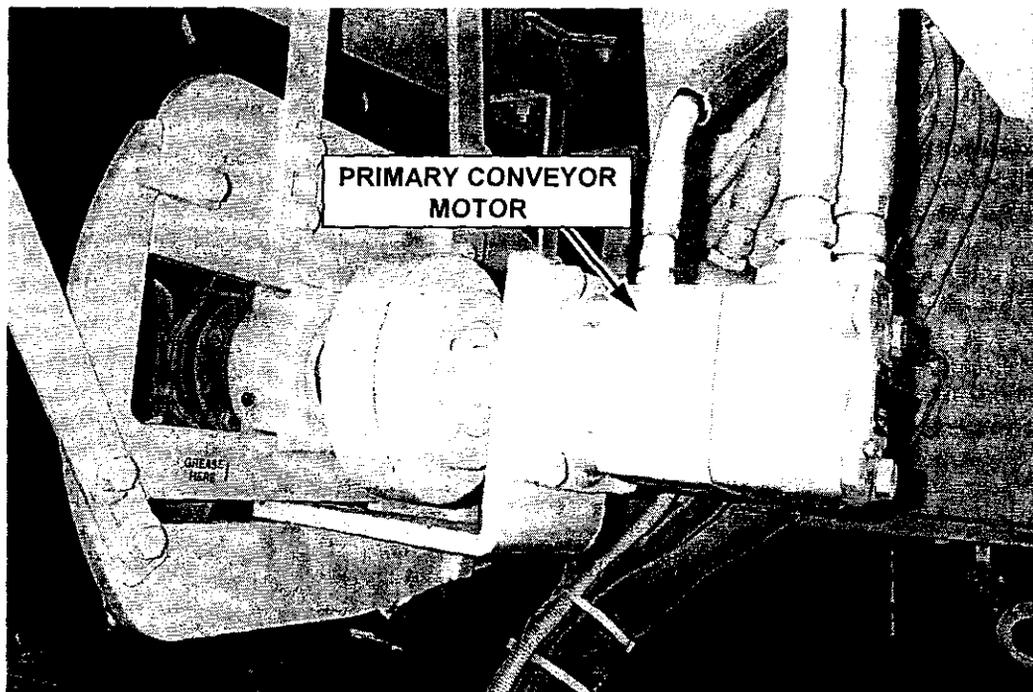

FIGURE 7
**PRIMARY CONVEYOR MOTOR** – The primary conveyor motor is a 19.9 cubic inch Sauer Danfoss OMT 315 (figure 7).